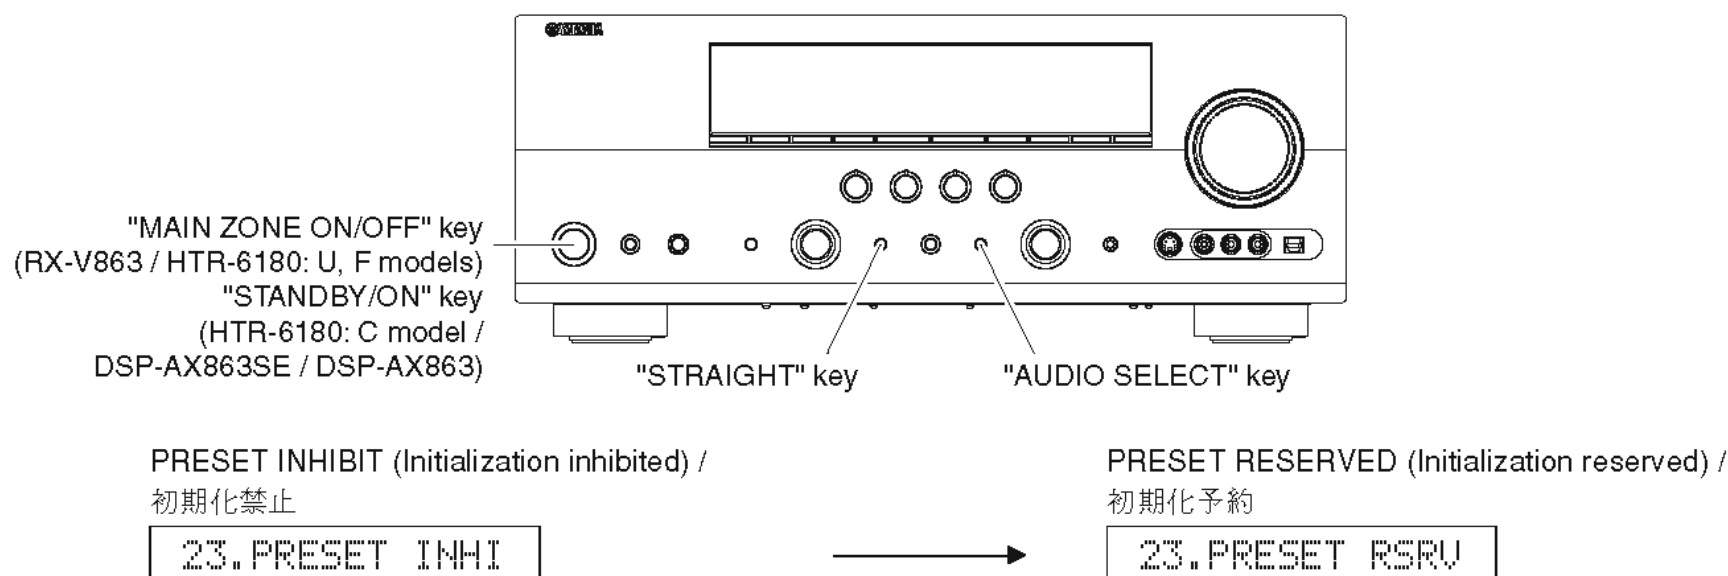

Fig. 4
- 2. Press the "MAIN ZONE ON/OFF" (RX-V863 / HTR-6180: U, F models) / "STANDBY/ON" (HTR-6180: C model / DSP-AX863SE) key while simultaneously pressing the "STRAIGHT" and "AUDIO SELECT" keys. (Fig. 4)
- 2. "STRAIGHT"キーと"AUDIO SELECT"キーを押しながら、"STANDBY/ON"キーを押し、ダイアグを起動します。(Fig. 4)